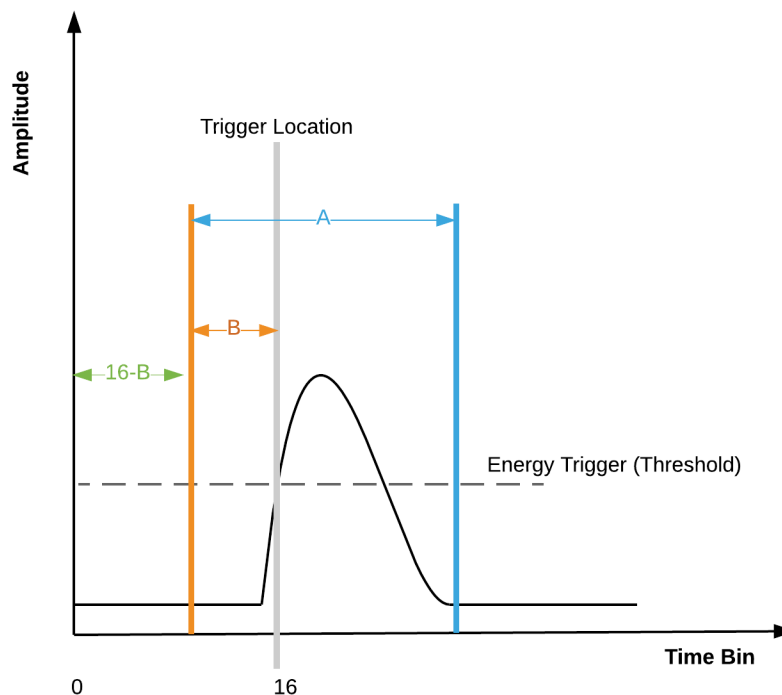

Fig. 4.36: Acquisition mode settings payload mapping.
- Baseline is computed as the moving average of samples located between $[0 \text{ to } 16-B]$ as shown in Fig. 4.36.